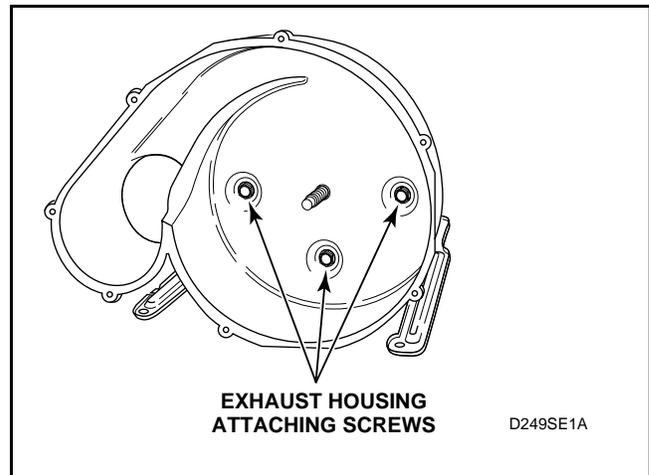

Figure 22
- (3.) Remove three screws holding the exhaust housing to the motor mounting bracket. See *Figure 22*.